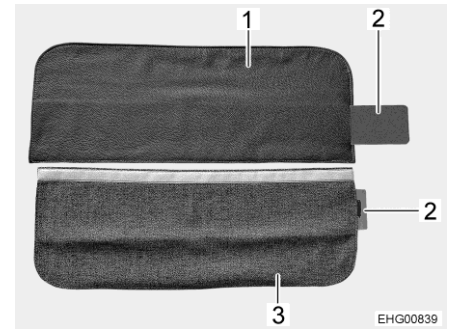

Fig. 61 Seat belt cover
The seat belt cover can be made of leather (Fig. 61,1) or fabric (Fig. 61,3).
- Slide the metal reinforcement plate (Fig. 61,2) completely into the pocket of the seat belt cover (Fig. 61,1 or Fig. 61,3).